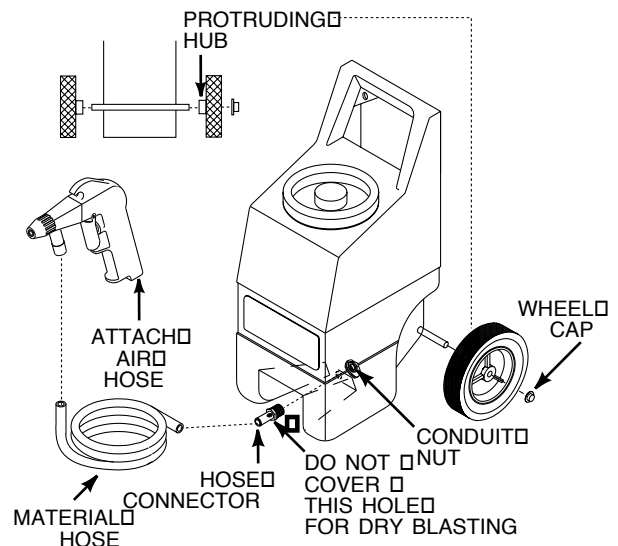

Figure 6 – Model AT121102AJ - 120 LBS
1. Slide the wheel onto the axle and lightly hammer on the wheel cap. Make sure the protruding hub on the wheel is facing the hopper (See Figure 6). Repeat for the opposite side.
3. Attach the material hose to the hose connector. Attach the opposite end of the material hose to the gun (See Figure 6).